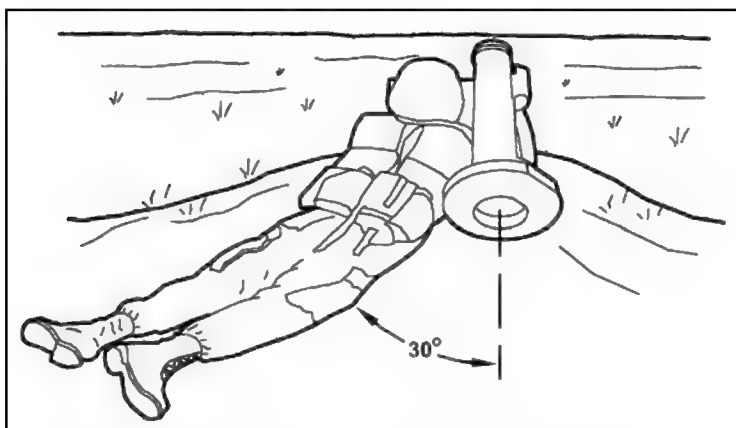

Figure 2-32. Correct prone body position.
(4) Place the body at a 30-degree angle to the length of the round (intended direction of fire) to prevent the legs from extending into the backblast area (Figure 2-32).